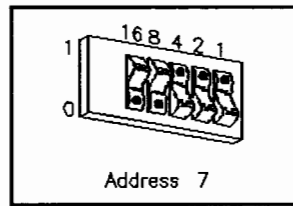

Figure 4-50.
- b. Set the HP-IB bus address according to Table 4-12. An example of setting the HP-IB bus address to 7 is shown in Figure 4-50.